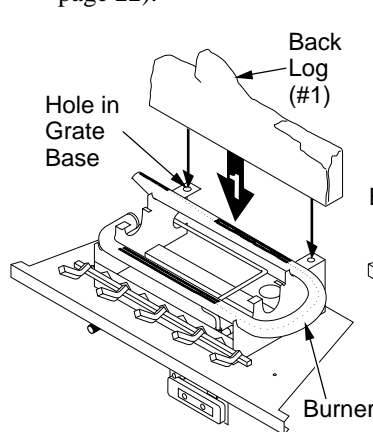

Figure 41 - Installing Back Log (#1)
1. Locate pegs on the bottom of back log (#1). Slide these pegs into the holes in the grate base behind the burner (see Figure 41).